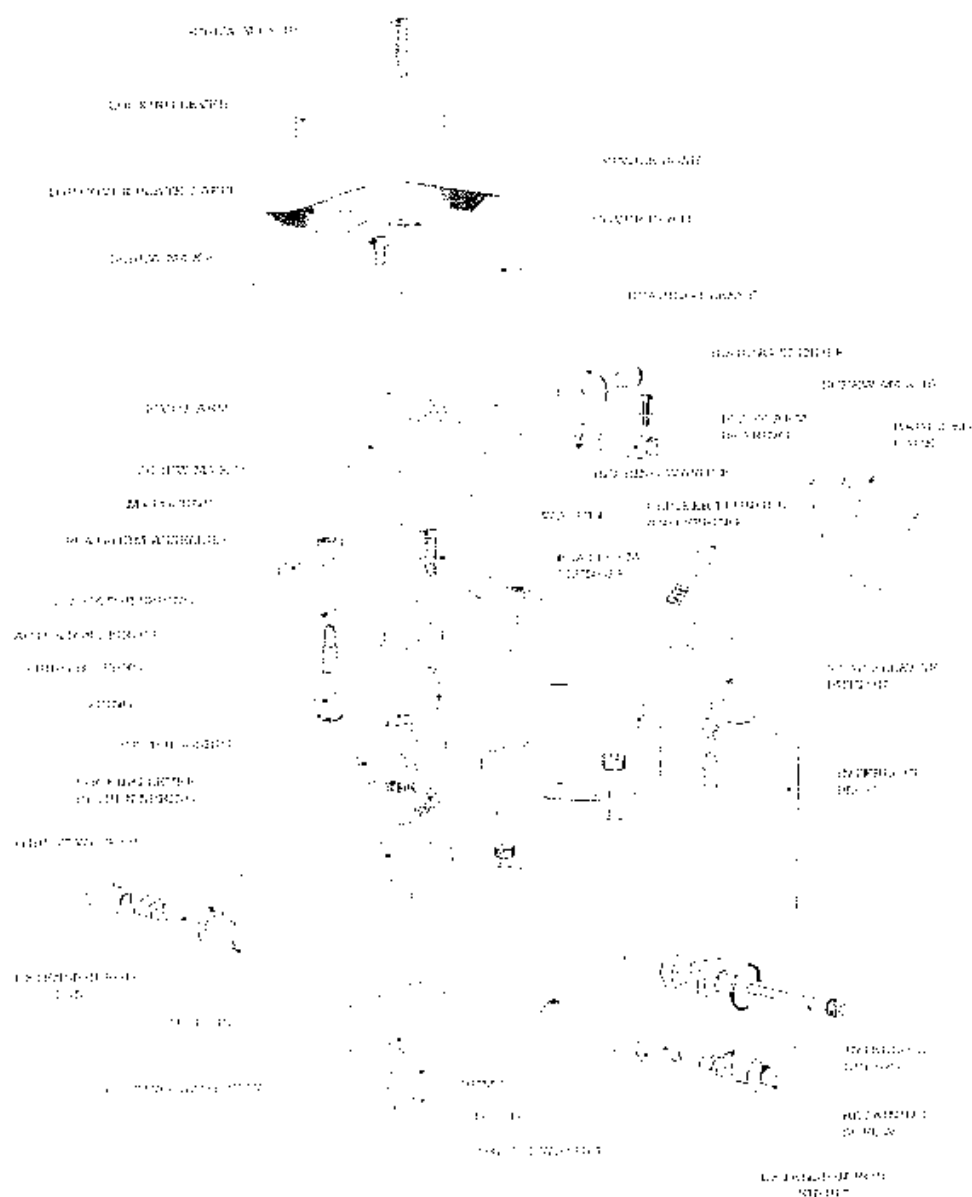
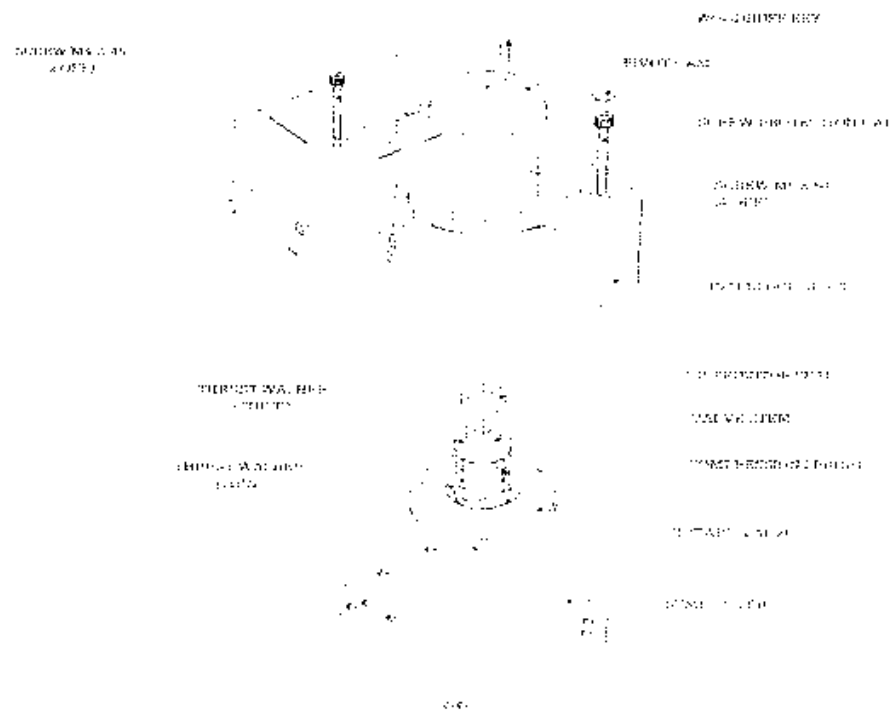

Figure 3 Mechanism
Figure 4 Rotary Valve
2.6 REMOVING/REPLACING A ROTARY (Figure 3, Page 9 and Figures 4 & 5, Page 10)